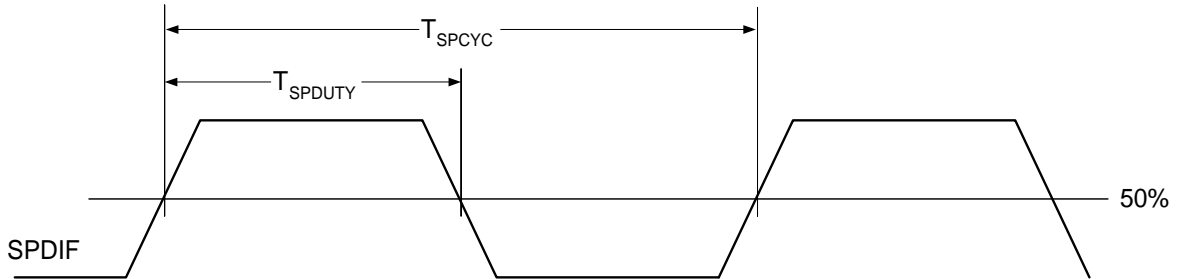

Figure 4.5. S/PDIF Output Timing
2. Refer to Figure 4.5 on the next page.